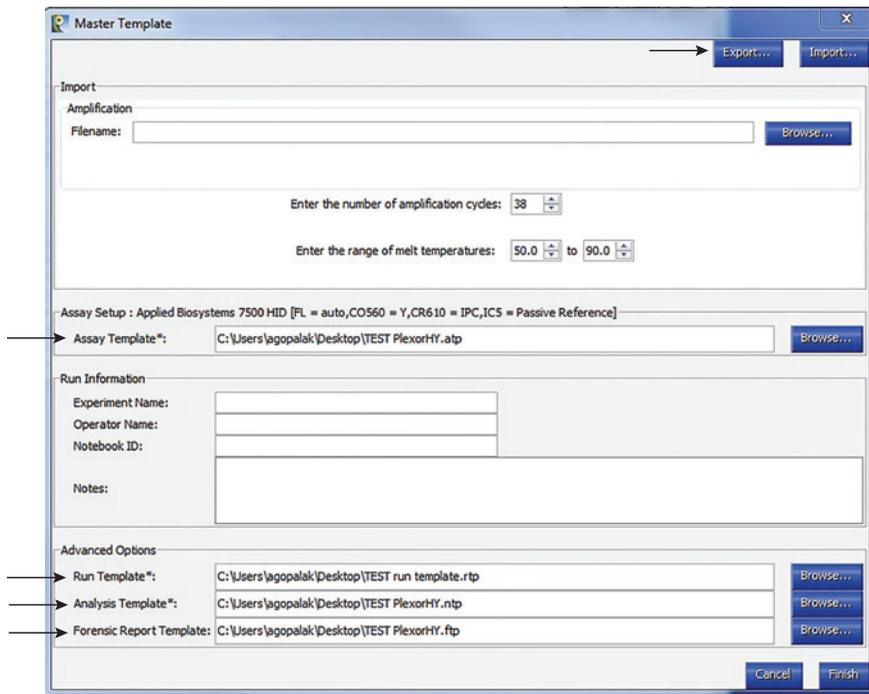

Figure 57. The Master Template screen.
15. Select "Import" in the File menu. The Master Template screen will open (Figure 57). In the Assay Setup section of the Master Template screen, browse to and choose the saved Assay Template file (.atp).
16. Under "Advanced Options" at the bottom of the Master Template screen, browse to and select all saved chosen templates (.rtp, .ntp, .ftp) in the appropriate field as shown in Figure 57.